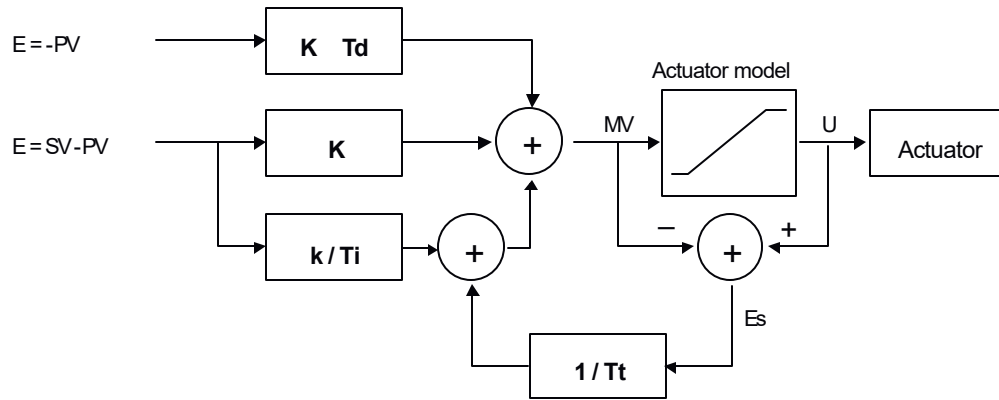
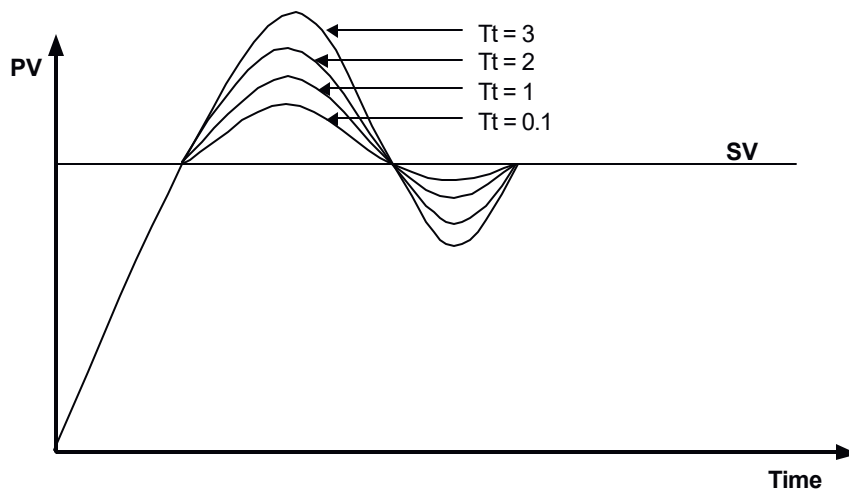

Fig. 15.14 The block diagram of anti-windup control system
Fig. 15.15 The PV output characteristics with different Tt values
There are several methods to avoid the windup of actuator. The most popular two methods are adding another feedback system to actuator, and modeling the actuator. The figure 15.14 shows the block diagram of the anti-windup control system using the model of actuator.
As shown in the figure 15.14, the anti-windup system feedback the multiplication of gain $(1/Tt)$ and Es to the input of integral term. The Es is obtained as the difference value between actuator output (U) and manipulation value of PID controller (MV). The Tt of the feedback gain is tracking time constant, and it is in inverse proportion with the resetting speed of integral term. Smaller Tt will cancel the windup of actuator faster, but too small Tt can cause anti-windup operation even in derivation operation. The figure 15.15 shows several Tt value and PV in the PI control system.